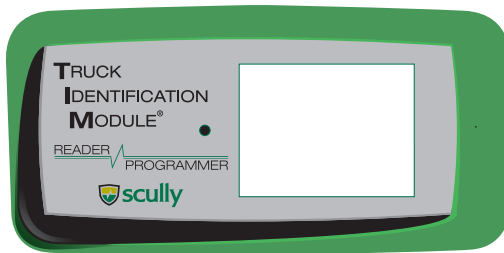

Figure 2. Removing Rubber Sleeve
2. Stretch the rubber sleeve away from the case (see Figure 2).